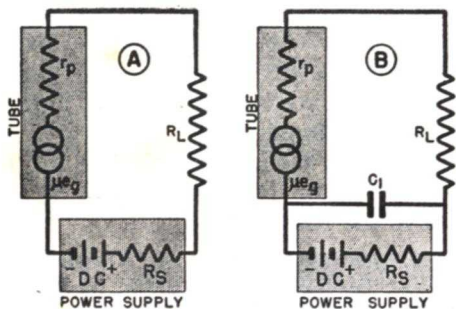

FIG. 15. How the effects of the power supply resistance are eliminated by a by-pass condenser.
► If we did not use by-pass condenser C_1 , there would be an a.c. voltage drop across R_1 just as there was across R_s in Fig. 15. (The equivalent circuit in Fig. 17B shows this more clearly.) Such a drop is undesirable both because it will reduce the output across R_L and because it will be introduced into the grid circuit (since the voltage across R_1 acts on the grid). Therefore, R_1 is usually by-passed by a condenser such as C_1 in Fig. 17A.